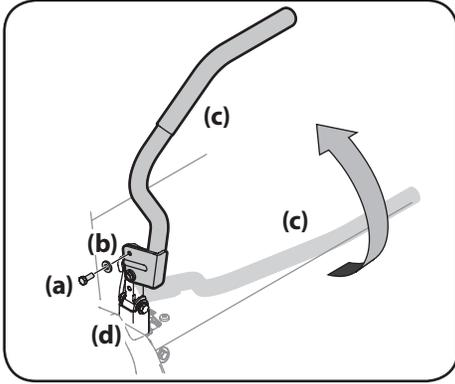

Figure 2-4
1. Remove the hex screws (a) and flat washers (b) from the hardware pack in your manual bag. See Figure 2-4.
2. Lift and swing that control lever (c) upward until the slotted hole in the control lever (c) bracket aligns with one of the holes in the pivot bracket (d). See Figure 2-4.
3. Slide the flat washer (b) onto the hex screw (a). From the outside, insert the hex screw (a) with the flat washer (b) through the control lever bracket (c) and the hole of the pivot bracket (d). See Figure 2-4. Using a ½" wrench snug the hex screw (a), but do not fully tighten.